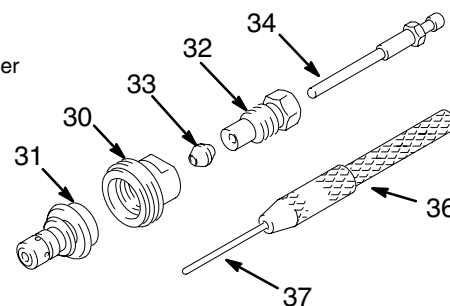

Fig. 5
**NOTE:** This kit includes the parts shown in Fig. 5, except the pin vise (36) which holds the cleaning pin (37), and the nozzle retainer (30) which is part of the gun. The wrenches mentioned in the following instructions are provided with the gun.